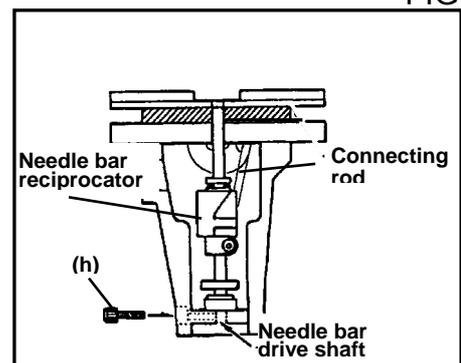

FIG.5
- (14) Loosen the setting screw (h), bring the connecting rod to the bottom dead center and pull out upward the needle bar drive shaft. (Fig.5)
- (15) Move the connecting rod to the left and pull out the needle bar reciprocator. (Fig.5)